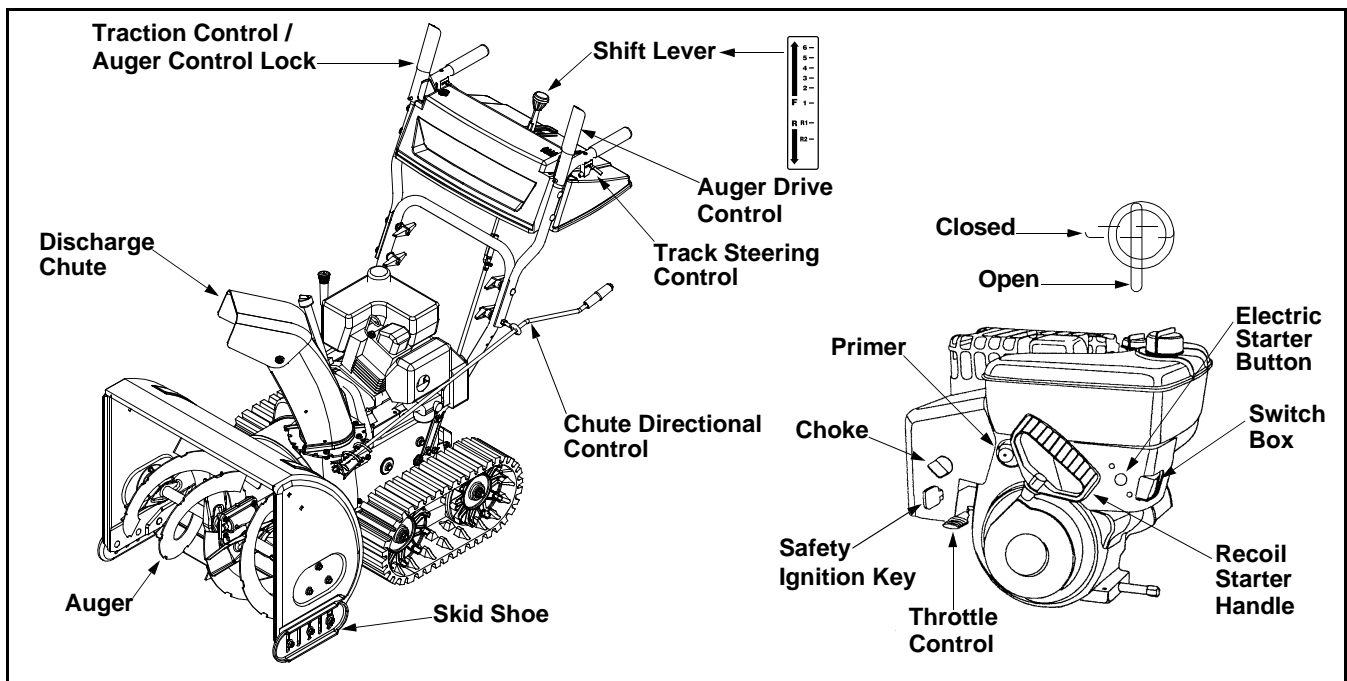

Figure 12
- Move the shift lever into sixth (6) position.
- a. With the traction control (refer to Figure 12) released, squeeze in triggers and gently push the snow thrower forward, then pull it back. Disregarding the overall weight of the snow thrower, the machine should otherwise move freely.
The traction control is located on the right handle. Squeeze the traction control to engage the track drive. Release to stop. See Figure 12.
The auger drive control is located on the left handle. Squeeze the control grip to engage the augers. Release to stop the snow throwing action. (Traction control must also be released.) See Figure 12.
The shift lever is located in the center of the handle panel and is used to determine both ground speed and direction of travel. It can be moved into any of eight positions. See Figure 12.
The chute directional control is located on left side of the snow thrower. See Figure 12.
The left and right track steering controls are located on the underside of the handles and are used to assist in steering the snow thrower. Squeeze the right track control when turning right and squeeze the left control when turning left. Operate your snow thrower in open areas until you become familiar with these controls. See Figure 12.
The position of the skid shoe is determined by the condition of the ground from where snow has to be removed. See Figure 12.
The throttle control is located on the engine. It regulates the speed of the engine and will shut off the engine when pushed down completely. See Figure 12.
The safety ignition key must be fully inserted in the switch before the unit will start. Remove the ignition key when the snow thrower is not in use. See Figure 12.
The fuel shut-off valve, located under the fuel tank, controls fuel flow from the tank. Always make certain it is in the Open (vertical) position before attempting to start the engine. See Figure 12.
- Make certain the fuel cutoff valve is in the OPEN (vertical position). See Figure 12.
- Move throttle control up to FAST position. Insert ignition key into slot. See Figure 12. Be certain it snaps into place. **Do not turn key.**